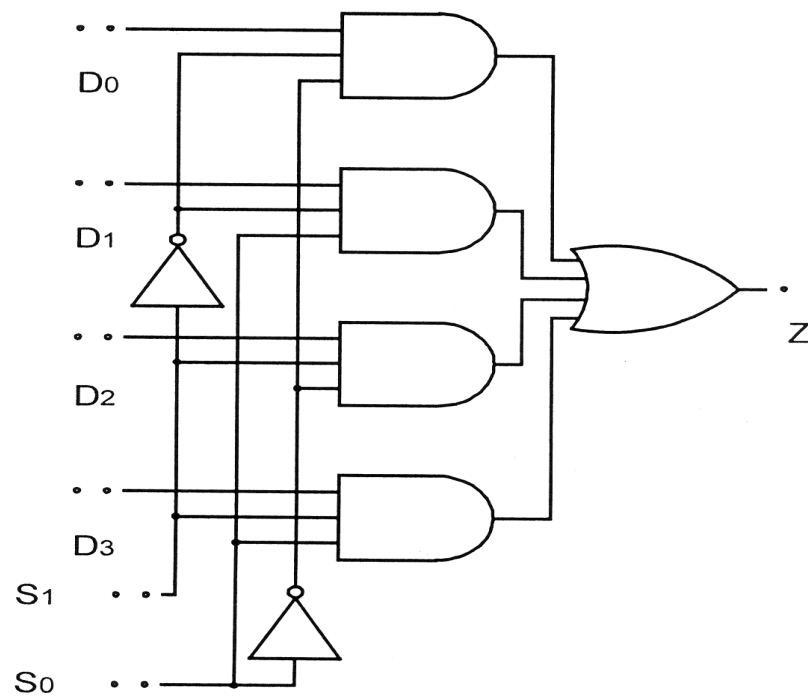

Figure 1
A 4 to 1 Line Multiplexer is shown in figure 1. Each of the four input lines, D0 to D3 is applied to one input of an AND gate. Selection lines S1, S0 are decoded to select a particular AND gate. When S1, S0 = 10. The AND gate associated with input D2 has two of its inputs equal to 1 and third input connected to D2. The other three AND gates have at least one input equal to 0, which makes their output equal to 0. The OR-gate output is now equal to the value of D2, thus providing a path from the selected input to the output. A multiplexer is also called a data selector, since it selects one of many inputs and steers the binary information to the output line. Whenever any input is selected which is in form of clock pulse all other inputs should be at zero level i.e. logic 0.
3. Connect inputs D0-D3 as per Truth Table1a to 4 to 1 line multiplexer. Circuit as shown in figure 1.